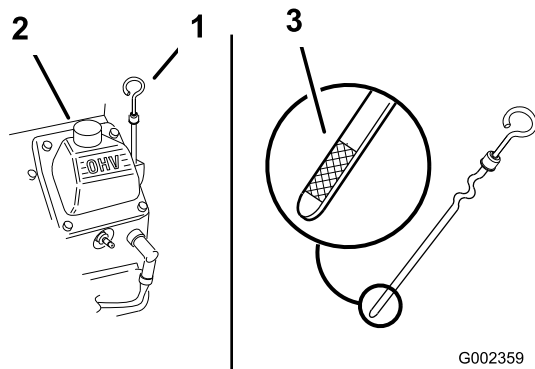

Figure 22
3. Clean around the oil dipstick (Figure 22) so that dirt cannot fall into the hole and damage the engine.
4. Remove the oil dipstick and wipe the end clean (Figure 22).
5. Slide the oil dipstick fully into the filler tube (Figure 22).
6. Slowly pour approximately 80% of the specified oil into the filler hole (Figure 22).